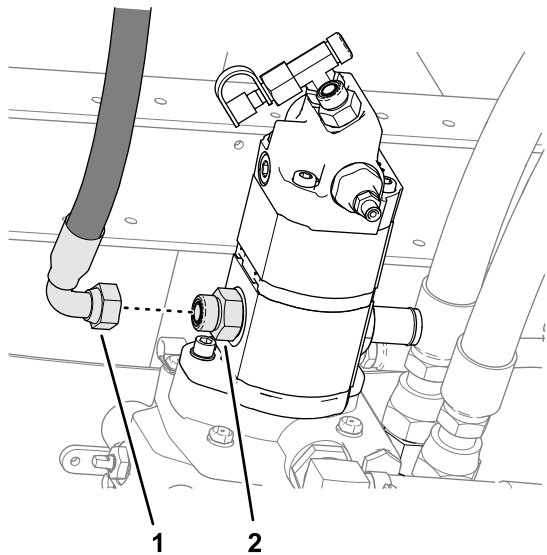

Figure 110
5. Assemble the pressure hose for the spray-pump motor to the straight fitting, and tighten the hose fitting (Figure 110).